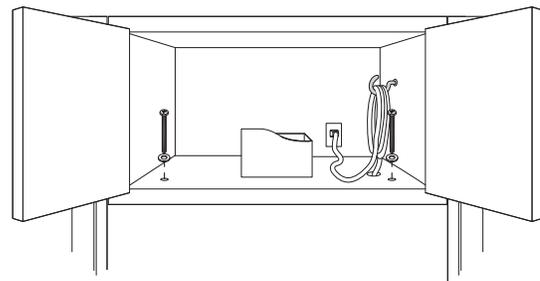

Figure 19
5. Use the two Top Cabinet Screws and two Flat Washers, supplied in the INSTALLATION HARDWARE, to attach the unit to the top cabinet. See Figure 19.
Attach the Exhaust Damper Assembly to the fan cover on the top of the outercase cabinet by sliding it into the slits in the same direction as the arrow. Use Tapping Screw 4 X12 mm from the INSTALLATION HARDWARE and tighten into place. See Figure 19.
7. Make a bundle of the power supply cord and attach it to the inside of the cabinet using the Power Cord Hanger. See Figure 19.